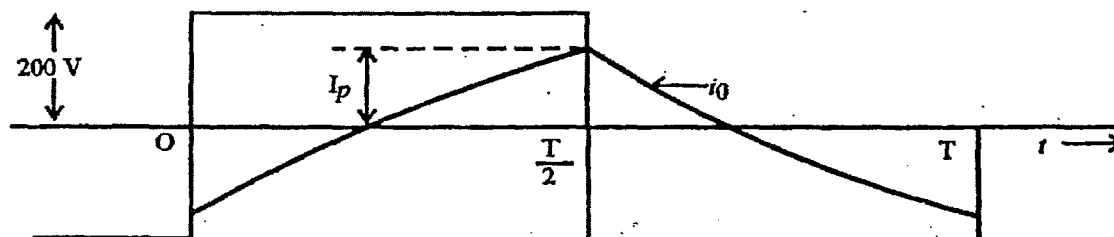

Figure Q1
- d. A full bridge inverter produces a 200V square wave at 50Hz across a series R-L load where $R=10\ \Omega$ and $L=50\text{mH}$. The relevant waveforms are shown in Figure Q1. Find the following